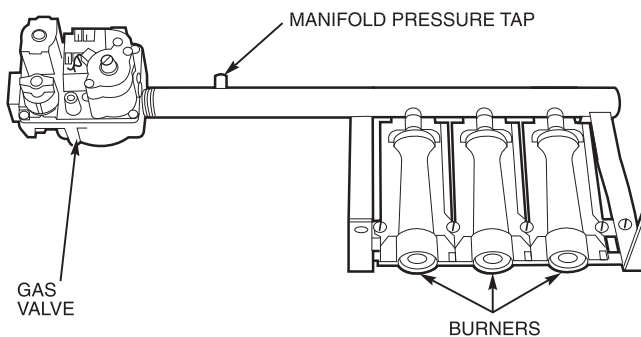

Fig. 55 — Burner Tray Details
10. Slide the burner tray out of the unit (see Fig. 55).
2. Remove manifold pressure tap plug from manifold and connect pressure gage or manometer. (See Fig. 55.)
11. Turn off unit, remove pressure manometer and replace the manifold pressure tap plug. (See Fig. 55.)